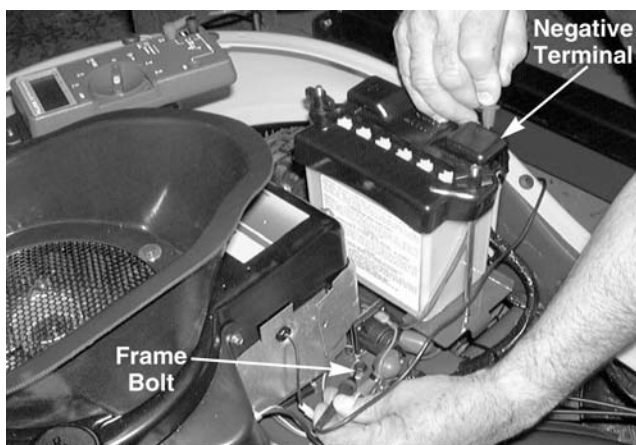

Figure 8-72.
3. Place one probe on the negative battery terminal. Place the second probe on the frame bolt. -There will be **CONTINUITY**. See Figure 8-72.